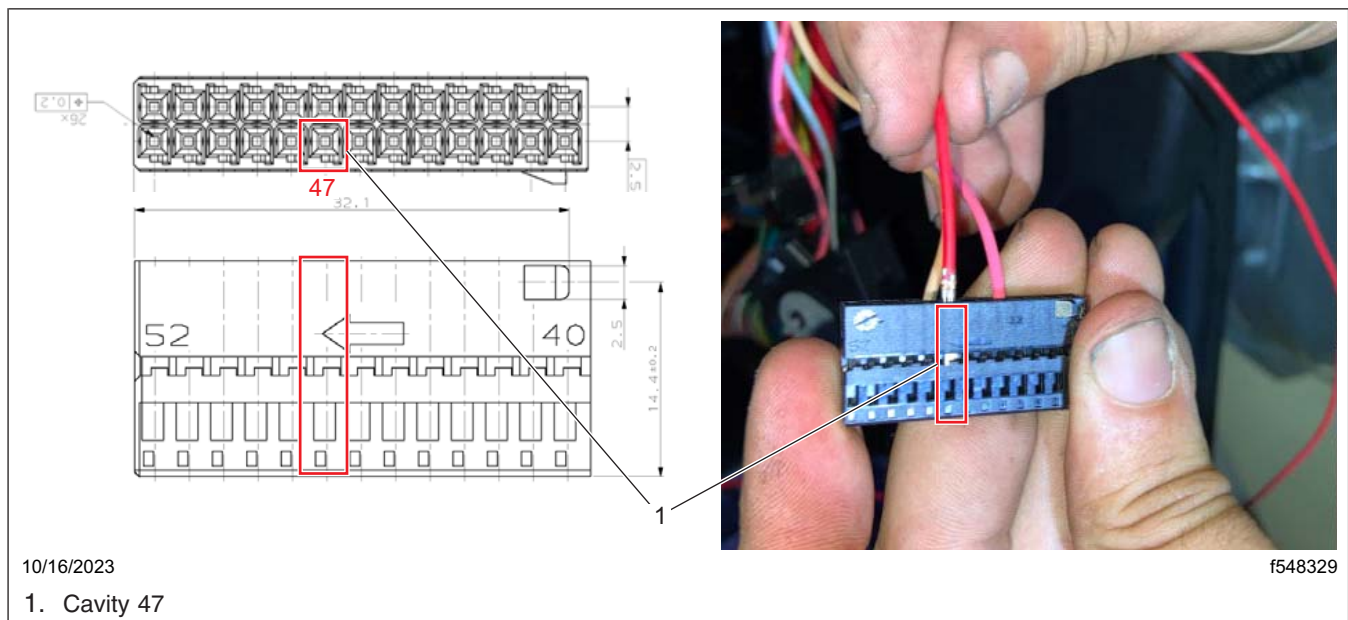

Fig. 61, Inserting the Red Wire into Cavity 47
13.15 Insert the red wire from the harness into cavity 47 of the black terminal bank. See Fig. 61.